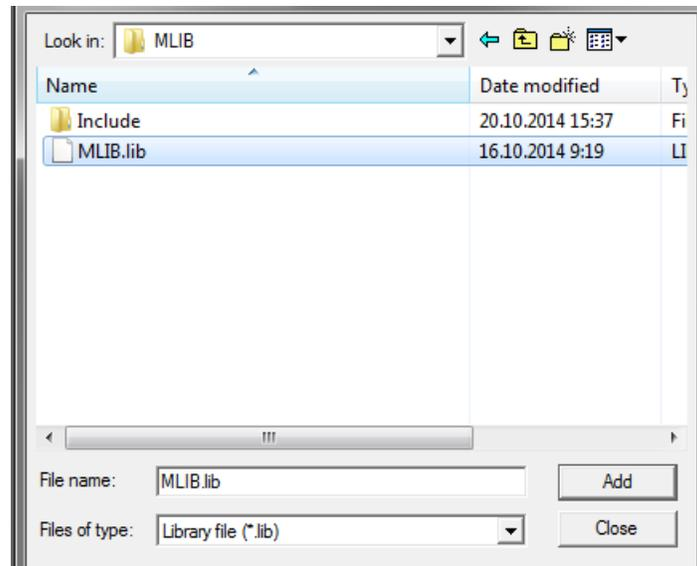

Figure 1-30. Adding .lib files dialog
5. Navigate to the parent folder C:\NXP\RTCESL\CM7F_RTCESL_4.5_KEIL\MLIB, and select the *mlib.lib* file. If the file does not appear, set the Files of type filter to Library file. Click Add. See Figure 1-30.